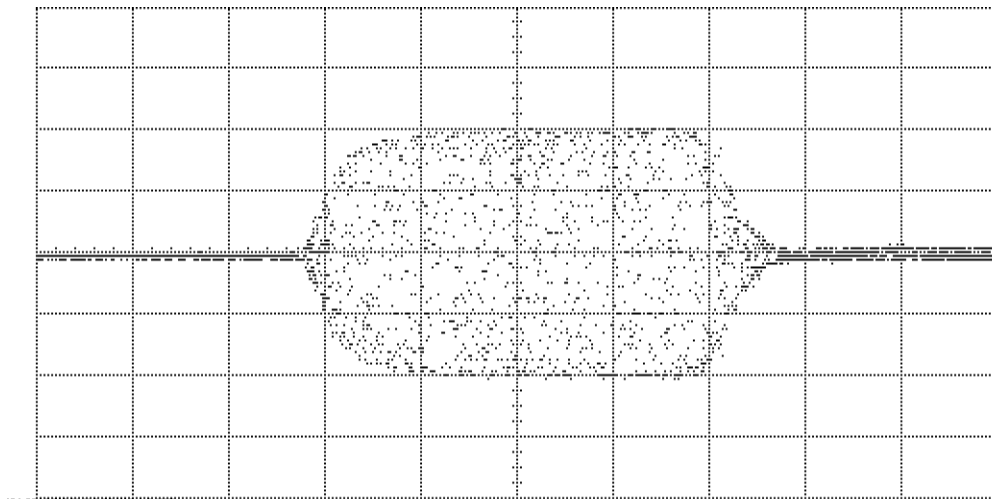

Figure 1-11. Pulse Modulation Example
11. Use the DELAY function on the oscilloscope to position the pulse envelope on the display. The oscilloscope display should appear as shown in Figure 1-11.
12. If the modulated pulse similar to that shown in Figure 1-11 is not present, the A3 Power Mod Assembly is faulty.
13. If the modulated pulse similar to that shown in Figure 1-11 is present, and was *not* present at .01 - 1 GHz OUTPUT (when you checked using Figure 1-4) the A4 Divide and Level Assembly or connecting cables are faulty.